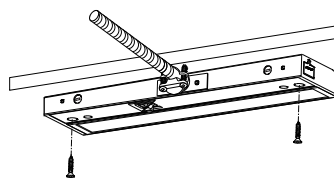

FIGURE 2
**3. Remove Knockout:** Locate and remove the desired knockout located on rear access panel. Remove the screw and rear access panel to gain access to the wires inside the fixture. Attach the supplied Cable Connector as shown in Figure 2.